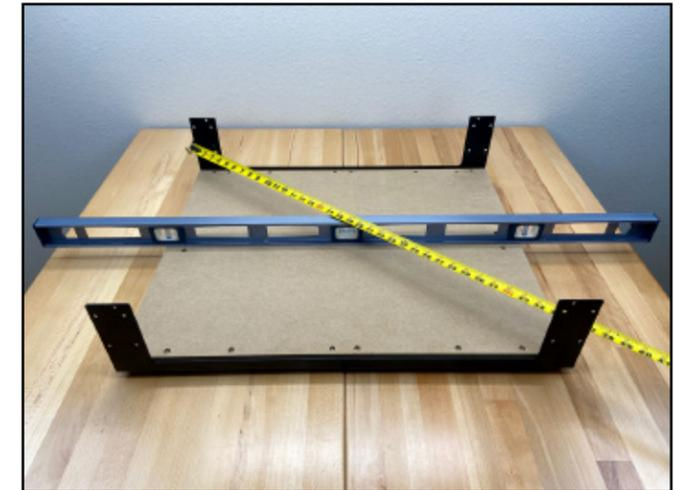

Figure 2-8
1. Adjust the height of each leveling foot to bring the fully assembled baseframe into level. Check level front-to-back, side-to-side, and diagonally. See **Figure 2-8**.